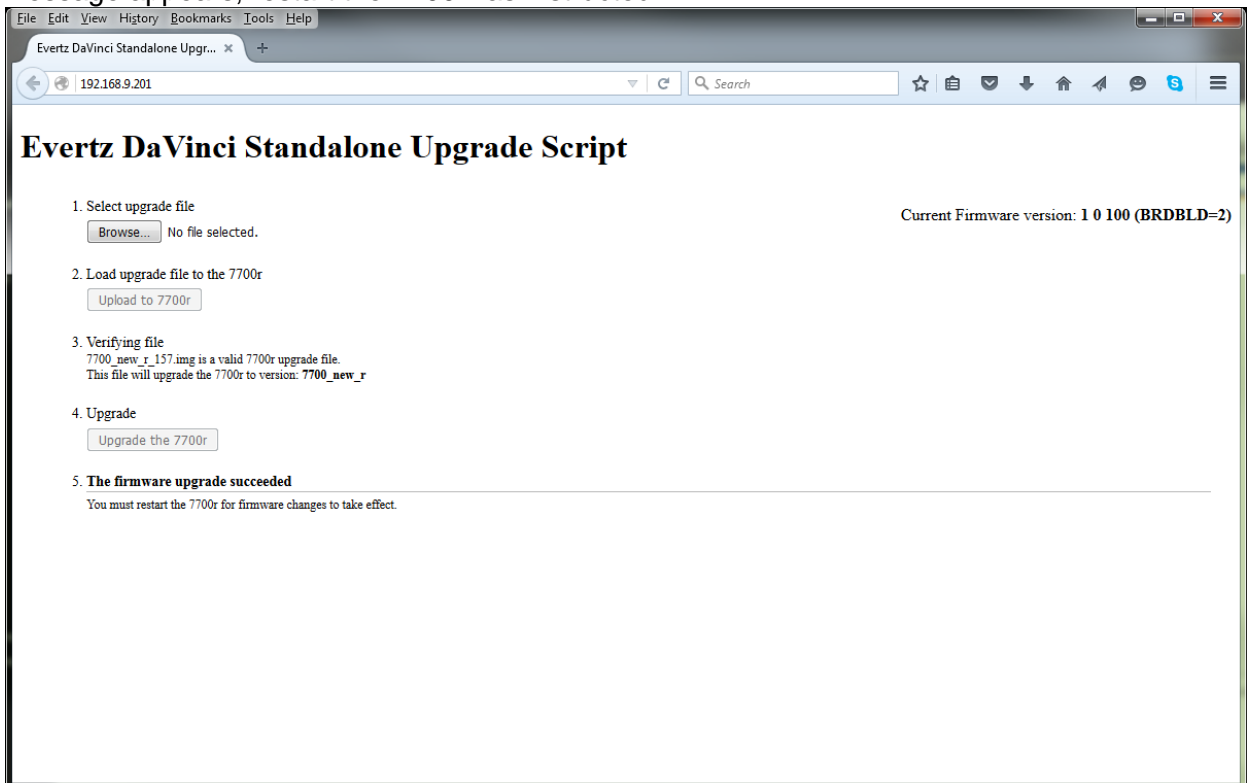

Figure 6-4: 7700R Upgrade Screen for Success
5. After pressing the *Upgrade* button, the 7700R will be upgraded. Once it is completed, a message indicating that the upgrade was successful as shown in Figure 6-4. Once this message appears, restart the 7700R as instructed.